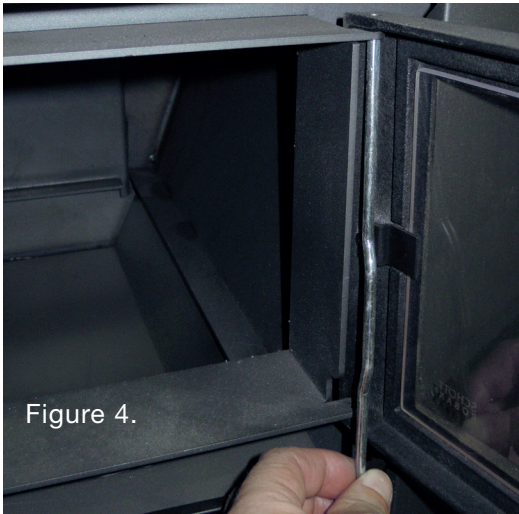

Figure 4.
Figure 4. Open the door and raise the hinge pin up so it comes out of the bottom hinge barrel. Hold onto the door securely and turn the bottom part of the pin and turn the bottom end of the pin up enough (2) that you can pull the pin down (3) and the pin and door come apart. For installation proceed in reverse order. First push the upper edge of the door in its place and thereafter push the pin through the upper eyelet. Thereafter turn the door and pin in their places from below and let the pin into the bottom eyelet. The pin is correctly installed when the wider areas of the pin are facing down. In this case the pin cannot move away